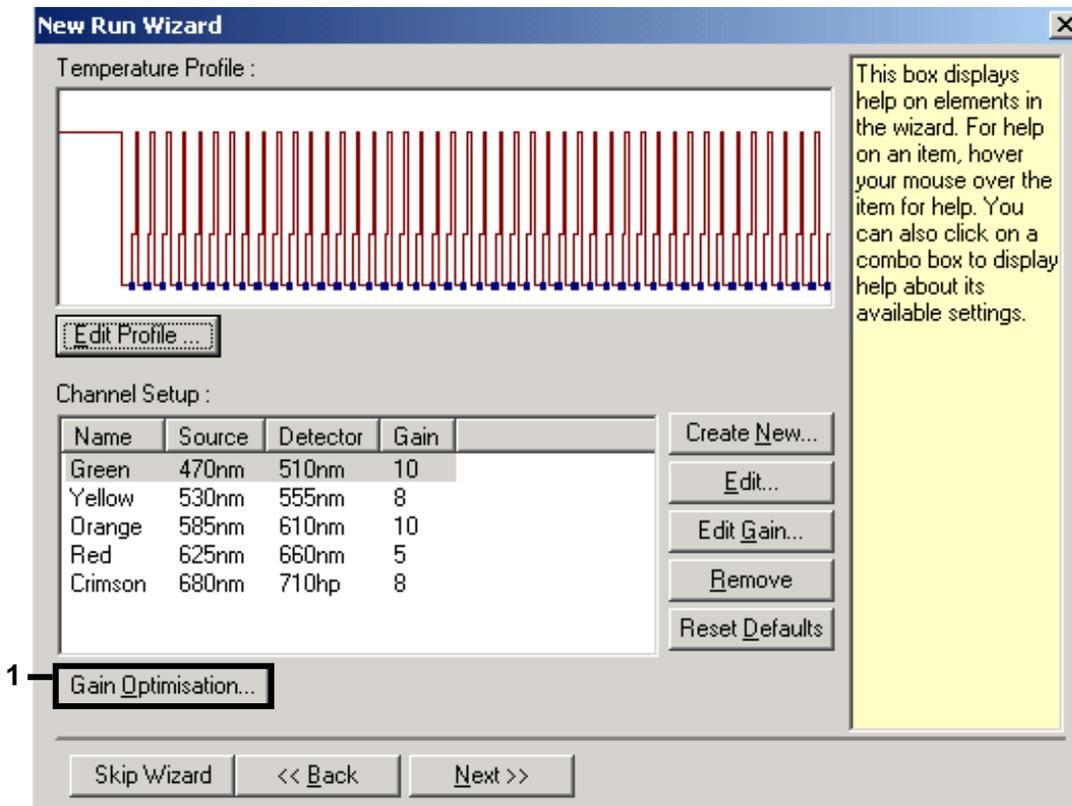

Figure 6. Gain Optimisation. Note that, on the Rotor-Gene 3000, the software will define the fluorescence dyes as "FAM/Sybr" and "JOE".
Adjusting the fluorescence channel sensitivity	Figure 6, 7
8. The detection range of the fluorescence channels has to be determined according to the fluorescence intensities in the PCR tubes. Click "Gain Optimisation" in the "New Run Wizard" dialog box (Figure 6) to open the "Auto-Gain Optimisation Setup" dialog box. Tick the box "Perform Optimization Before 1st Acquisition" (Figure 7).